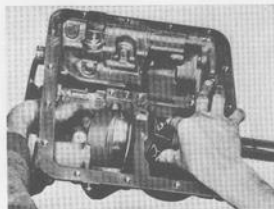

Fig. 4-112. Installing rear brake band
6. Place the brake band in position in the case, see Fig. 4-112. Then fit the rear servo assembly. Tighten only the rear (short) servo screw since the long one also locates the center support.